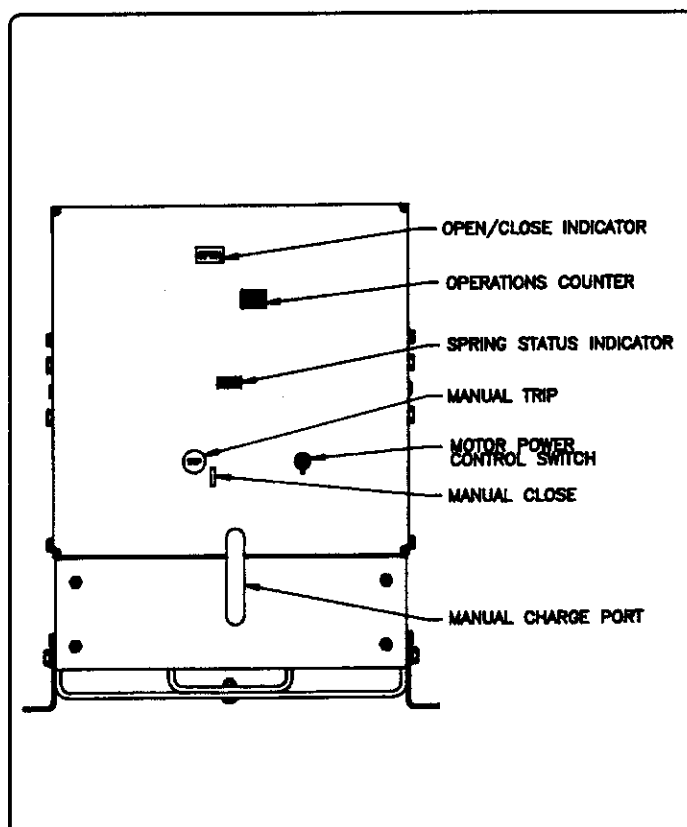

Figure 7 - Control Panel
*If it is desired to make a dielectric test on the secondary control wiring, turn the spring charging motor disconnect switch (1, Fig.7) to the "OFF" position. Apply test voltage (1100V-AC) for one minute to each of the secondary contacts of the circuit breaker.
If it is desired to make a dielectric test on the spring charging motor, turn the motor disconnect switch (1, Fig.7) to the "ON" position. Apply test voltage (540V-AC) for one minute to the motor circuit.